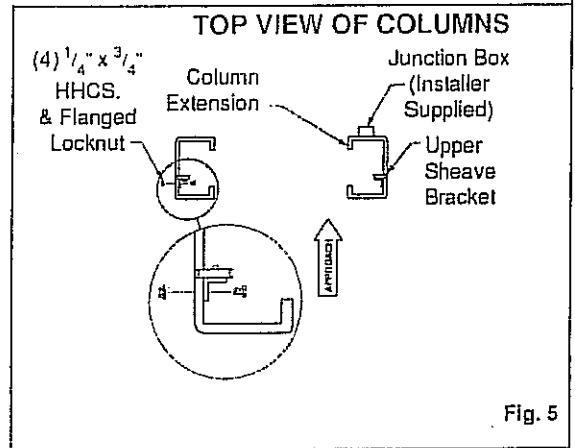

Fig. 5
5. While still on the ground, install left hand and right hand upper latch cable sheave brackets to column extensions with (4) 1/4" x 3/4" lg. Hex Cap Screw and Flanged Locknuts, Fig. 5.